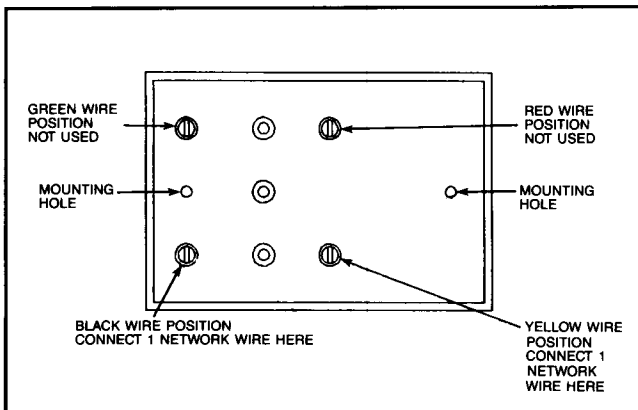

Fig. 4 Telephone Jack Assembly
5. Remove the cover of the telephone jack. Attach one of the network wires to the terminal co-occupied by the yellow wire. (Fig. 4)
6. Attach the other network wire to the terminal co-occupied by the black wire. (Fig. 4)